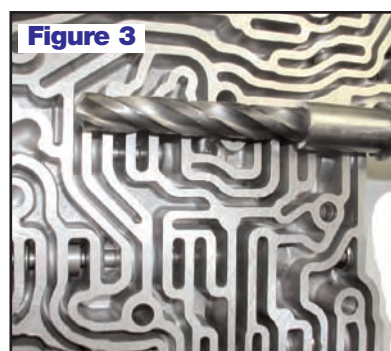

Figure 3
- 2.** Install the OEM regulator valve springs and valve or our **37497-38** replacement valve as shown in Figure 3.
Step 1: Verify core drill stop collar is positioned correctly, (see Figure 3).
Visual method: Insert 13/32" core drill through the stop collar, and **DB-1** drill jig. Lay the drill jig over the body with shoulder resting against the edge as shown. The collar screw will be set, so the tip sets at the middle of the circuit shown in Figure 3.